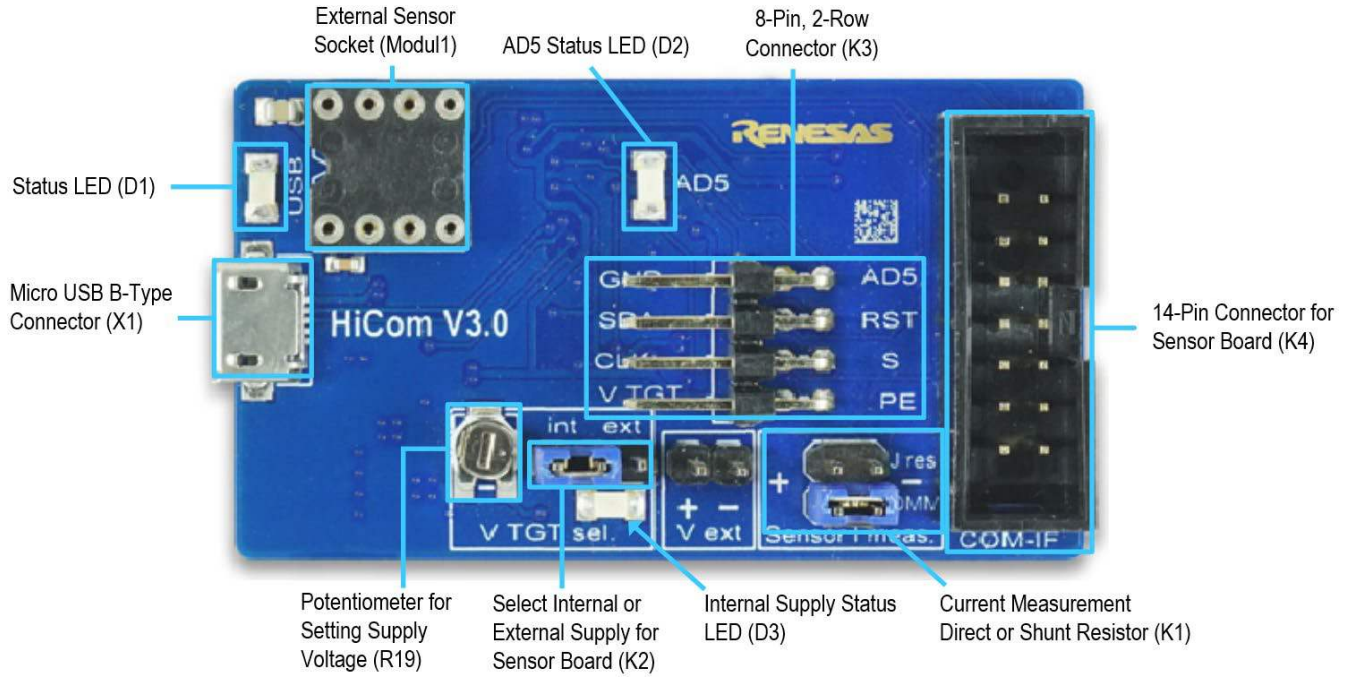
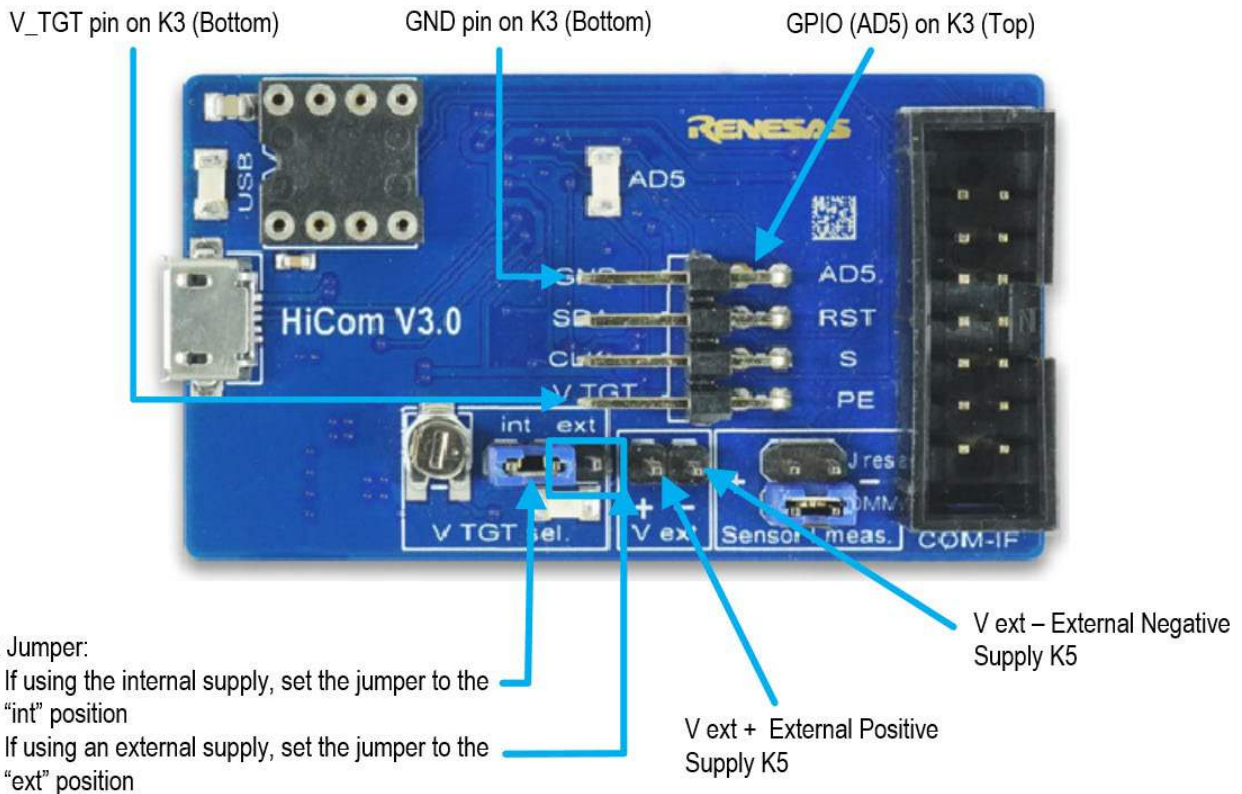

Figure 2. Jumper Settings and Connectors on Top Side of the ZMOD4410 Communication Board
Figure 3. Jumper Settings, Connections, and Test Points on the Communication Board for the Internal or External Supply Voltage
1. Refer to Figure 2, Figure 3, and Table 1 to determine the correct jumper settings for the ZMOD4410 Communication Board depending on whether an external supply or the internal voltage supply on the board is used.
- If using an external supply, ensure that the jumper is across the pins labeled “ext” on the K2 connector. In this case, without connecting the external supply to the Communication Board, verify that the external voltage supply setting does not exceed the voltage supply specifications – a minimum of 1.8V or a maximum of 3.6V – as per the ZMOD4410 Datasheet. With the external supply off, connect the external voltage to the 2-pin “±V ext” header adjacent to the K2 jumper with the orientation indicated in Figure 3.
If the external voltage supply has been selected, turn on the external supply and verify that the D3 LED adjacent to the potentiometer is on (see Figure 2). *Note:* The intensity of the green D3 LED is proportional to the supply voltage.
5. If the internal voltage is used, the Gas Sensor Evaluation Software activates the internal voltage after the sensor has been started. Use the metal potentiometer to the left of the K2 connector to adjust the VDD supply voltage in the typical range from 1.8V to 3.6V as measured across the V\_TGT and GND pins available on the K3 connector as shown in Figure 3. Its initial adjustment on delivery provides a voltage of  $VDD \approx 2.0V$ . Once a measurement has been started by the software, the green D3 LED adjacent to K2 will light with an intensity proportional to the voltage supply that was set using the potentiometer.
6. Verify that the red D1 LED is on, which indicates that the kit is properly connected and powered (see Figure 2).